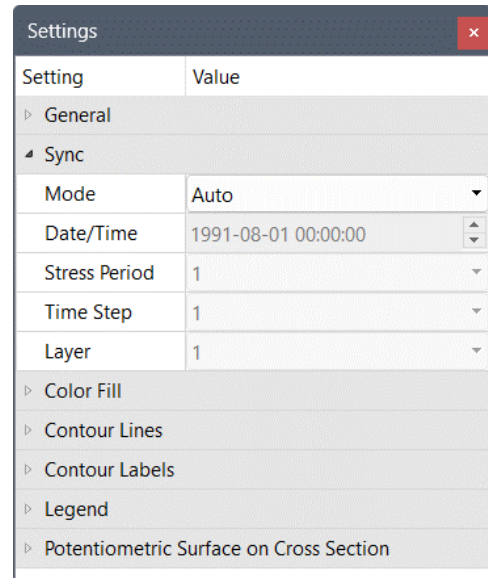

Figure 162. The Sync group of the Settings window for Contour Maps
2. **Sync** (Figure 162): This group controls what data is used to generate contours.